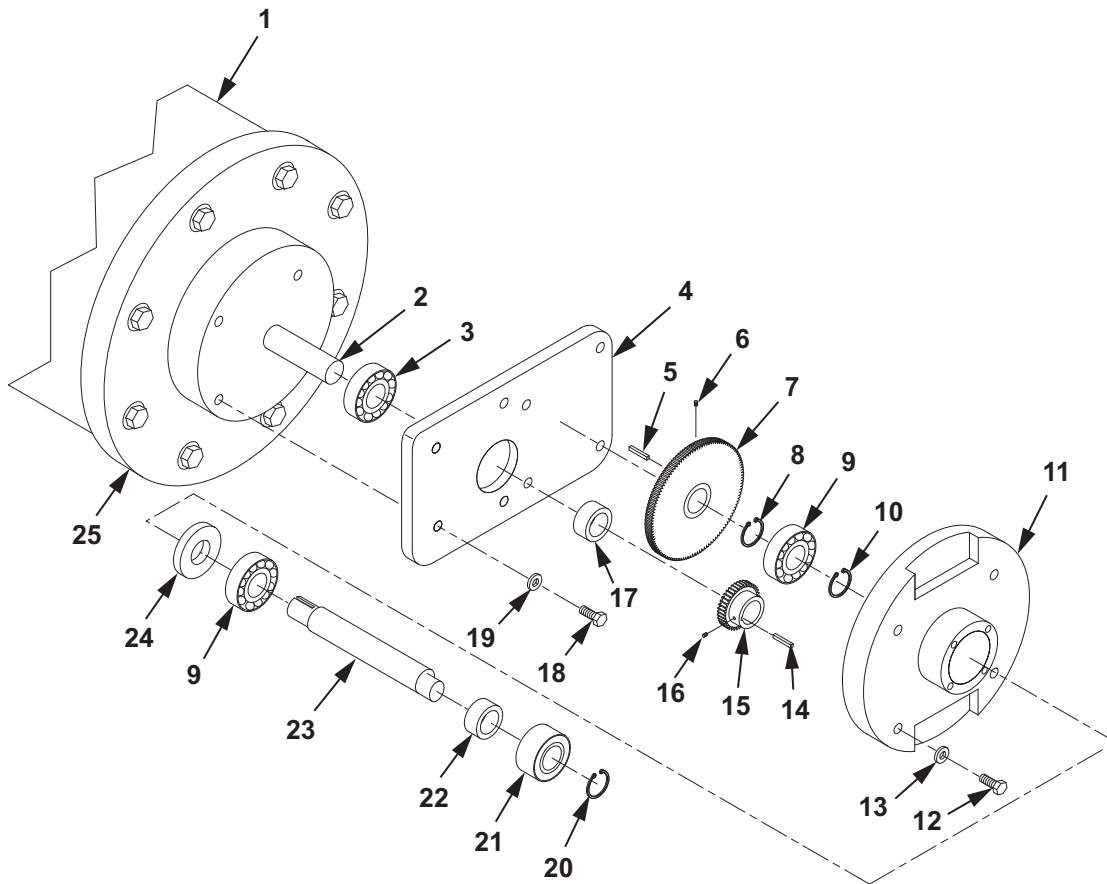

Figure 5. Fuel Additive Injection Pump Bearing Housing Assembly.
18. Install bearing (Figure 5, Item 3) on adapter plate (Figure 5, Item 4).
19. Install adapter plate (Figure 5, Item 4) on end plate (Figure 5, Item 25).
20. Install four new lockwashers (Figure 5, Item 19) and screws (Figure 5, Item 18) on adapter plate (Figure 5, Item 4). Tighten screws (Figure 5, Item 18).
21. Install spacer (Figure 5, Item 17) and key (Figure 5, Item 14) on shaft (Figure 5, Item 2).
22. Install gear (Figure 5, Item 15) on shaft (Figure 5, Item 2) and tighten setscrew (Figure 5, Item 16).
23. Install seal (Figure 5, Item 24) in gear housing (Figure 5, Item 11).
24. Using retaining ring pliers, install snap ring (Figure 5, Item 10) on output shaft (Figure 5, Item 23).
25. Using arbor press, install output shaft (Figure 5, Item 23) and two bearings (Figure 5, Item 9) in gear housing (Figure 5, Item 11).
26. Using retaining ring pliers, install snap ring (Figure 5, Item 8) in output shaft (Figure 5, Item 23).
27. Install key (Figure 5, Item 5) on output shaft (Figure 5, Item 23).
28. Install gear (Figure 5, Item 7) in gear housing (Figure 5, Item 11) and tighten setscrew (Figure 5, Item 6).
29. Install gear housing (Figure 5, Item 11) on adapter plate (Figure 5, Item 4).
30. Install four new lockwashers (Figure 5, Item 13) and screws (Figure 5, Item 12) on gear housing (Figure 5, Item 11). Tighten screws (Figure 5, Item 12).
31. Install spacer (Figure 5, Item 22) and drive bearing (Figure 5, Item 21) on output shaft (Figure 5, Item 23).
32. Using retaining ring pliers, install snap ring (Figure 5, Item 20) on output shaft (Figure 5, Item 23).